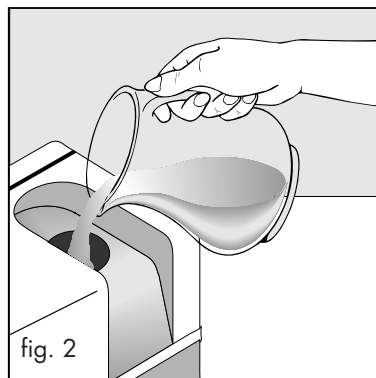

fig. 2
- Pour slowly about 1.2 litres of water into the tank, taking care not to let it overflow. (See fig. 2).